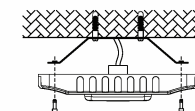

Figure 10
3. Attach the fixture to the mounting plate using the included screws (Figure 10).